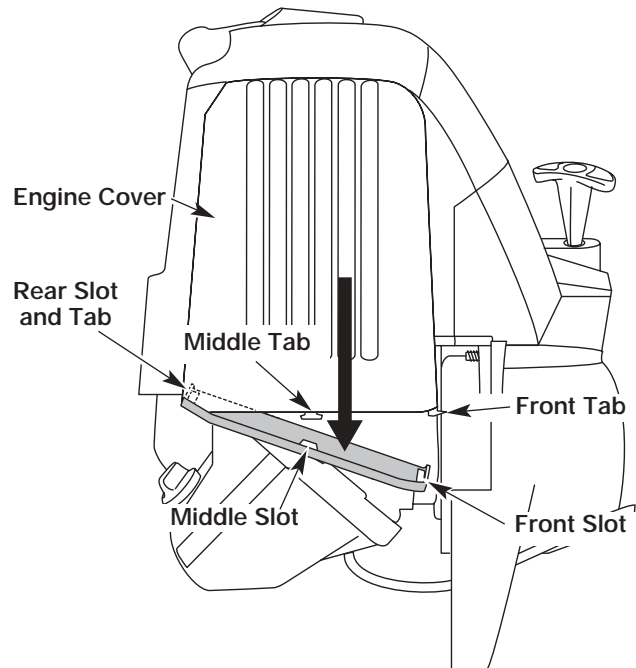

Fig. 67
1. Remove the muffler cover by pressing down on it, separating it from the engine cover. Using a flat blade screwdriver, disengage the middle and front tabs and slots first. The cover will hinge off from the rear tab (Fig. 67).
- Reinstall the muffler cover. Slip the rear tab on the muffler cover into the engine cover rear slot. Then slide the remaining slots into the tabs until they snap into place (Fig. 67).